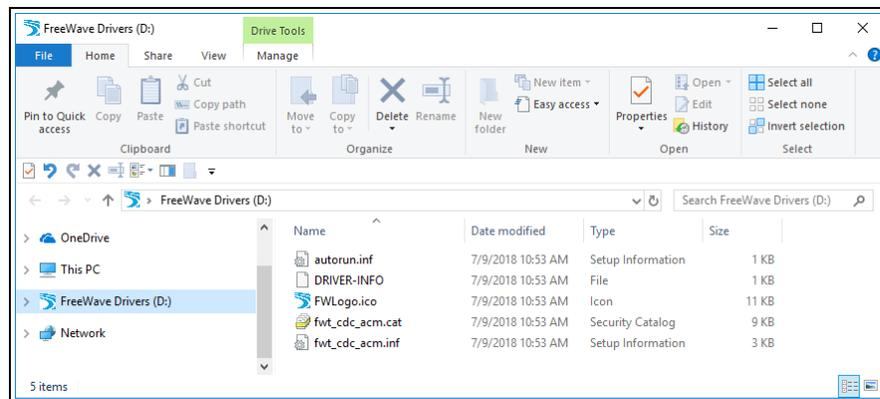
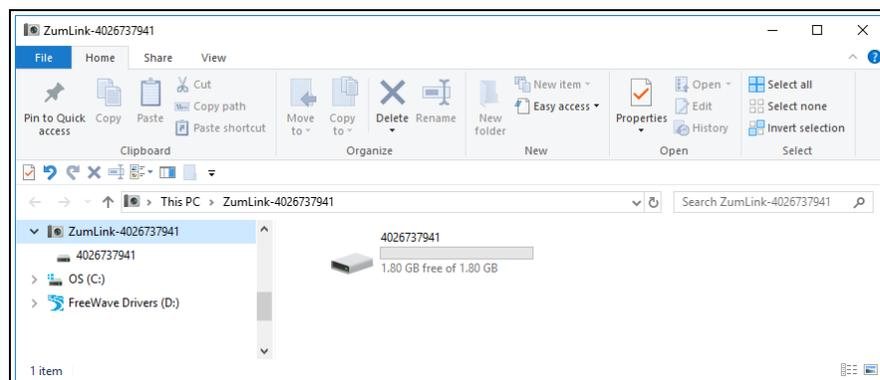

Figure 44: FreeWave Drivers window
Figure 45: ZumLink window
1. Connect the USB cable to the computer and the Micro USB end to the Z9-P or Z9-PE. The **FreeWave Drivers** and **ZumLink** windows may open. (Figure 44 and Figure 45)